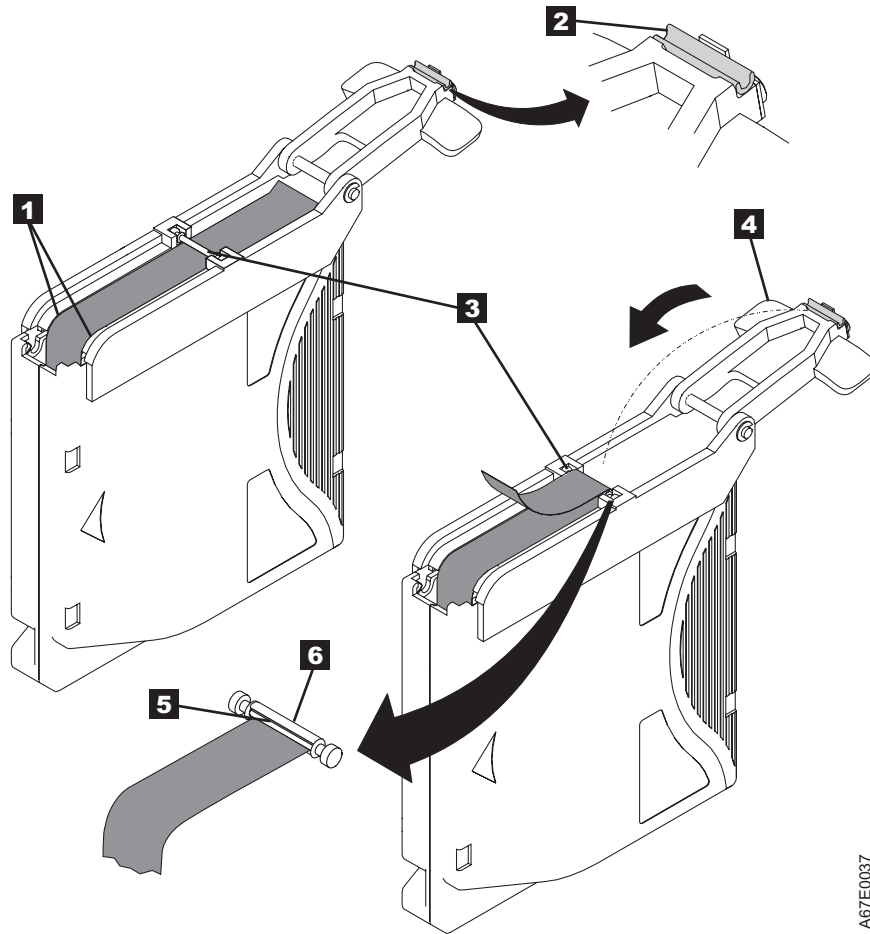

Figure 42. Attaching the leader pin to the tape
7. Position the tape in the alignment groove of the leader pin attach tool (see **1** in Figure 42 on page 137).
11. Fold the tape over the leader pin and hold it with your fingers (see Figure 42 on page 137). **Note:** Use care to ensure that the tape is centered over the leader pin. Failure to properly center the tape on the pin will cause the repaired cartridge to fail. When the tape is properly centered, a 0.25-mm (0.01-in.) gap exists on both sides of the pin.